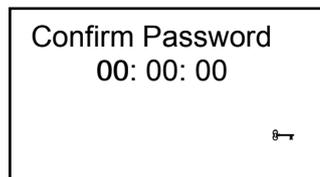

Figure 49. Display of Confirm Password Option
- The new password then needs to be confirmed before it is saved in the system memory. To confirm the new password select the 'New Password' option again but this time it will ask for the password to be confirmed as shown in figure 49.